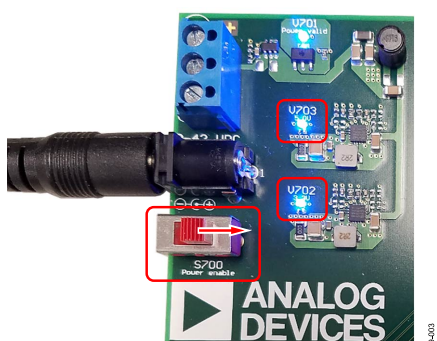

Figure 3. Power Switch in ON position and 5 V and 3.3 V LEDs
2. Switch the Power Enable switch on the baseboard to the **ON** position, as shown in Figure 3. The 3.3 V LED (V702) and the 5.0 V LED (V703) illuminate blue.